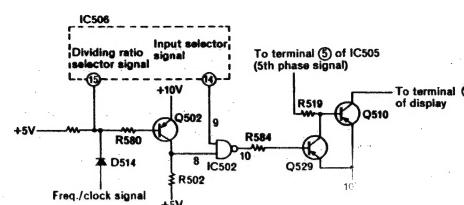

Fig. 15
This circuit is provided so that the second decimal point and below do not light during FM reception. Terminal (15) of IC506 as shown in Fig. 15 is the output terminal controlling the dividing ratio; it is set to 5V during FM/MW reception and 10V during SW reception. Since the output voltage at terminal (15) is set to 5V during FM/MW reception, there is a potential difference between the Base and Emitter of Q502, Q502 turns ON and the NAND input terminal (8) of IC502 is set to H level because of the voltage drop in R502. Terminal (14) of IC506 is the band selector controlling terminal. It is 10V during FM/SW reception, and 5V during MW reception. Accordingly, output terminal (10) of IC502 is 5V only during FM reception when the two (2) inputs are at H level, so Q529 turns ON and keeps Q510 OFF. Accordingly, Q510 does not change even if the 5th phase of the 6-phase signal changes, so the lower 2nd digit of the display tube related to the 5th signal is always negatively biased, so it is not lit. The CLOCK/FREQ selector signal input terminal of D514 is fed 10V during the CLOCK display mode to prevent the digit from not being lit when the frequency is changed over to the CLOCK display mode during FM reception which turns Q502 OFF and sets terminal (8) of IC502 to L level.